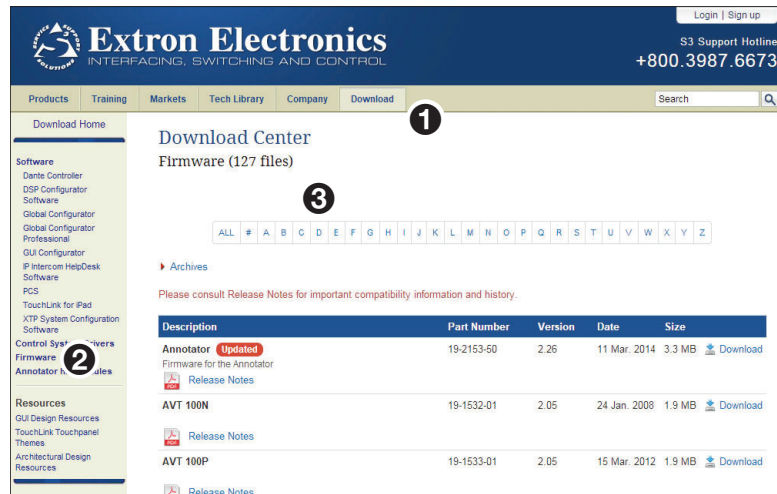

Figure 16. Firmware Download Center
2. On the **Extron website**, click **Download** in the menu bar along the top of the page (figure 16, ①).